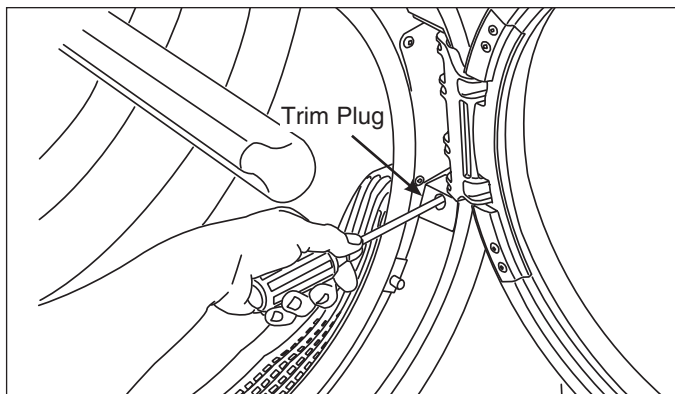

Figure 4-1.
2. Using a #2 square bit screwdriver, extract and save the trim plug and long, course thread, panhead screw. (See Figure 4-1)